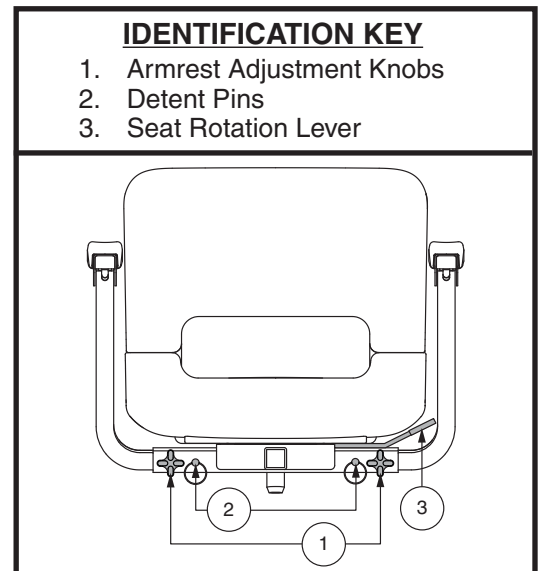

Figure 12. Seat Adjustments
The seat rotation lever, located on the right side of the seat base, secures the seat into several positions. See figure 12.
1. Loosen the armrest adjustment knobs. See figure 12.